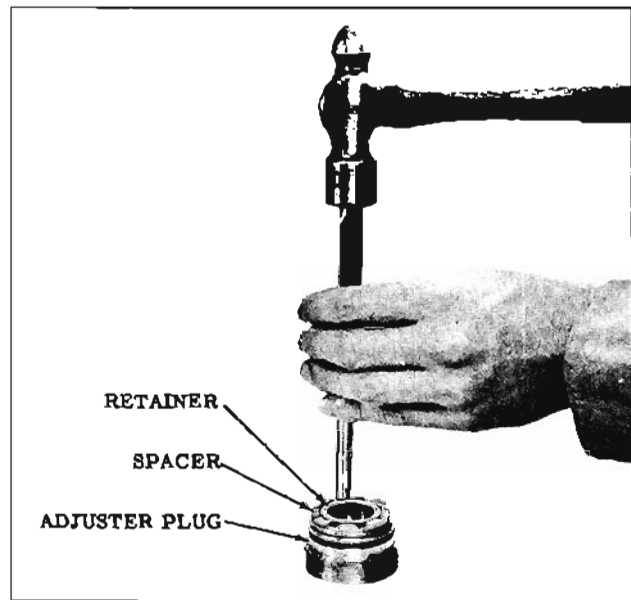

Fig. 8-53 Installing Bearing Retainer
5. Install a new bearing retainer on the adjuster plug by carefully tapping on the flat surface of the retainer. (Fig. 8-53)